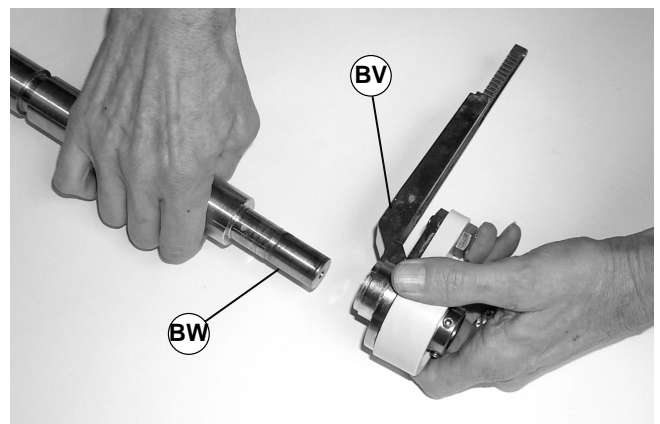

Figure 44
8. Remove bearing and head plate assembly (BV of Figure 44) from idler spindle (BW).
1. Make sure bearing surfaces on idler spindle are free of nicks and burrs. Slide bearing and head plate assembly (BV of Figure 44) on idler spindle (BW).